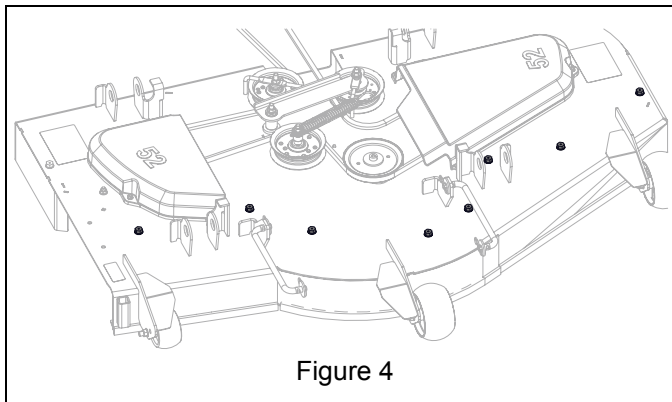

Figure 4
6. Remove eight 3/8" x 1/2" tapping screws from top of deck. Retain screws for operation without mulch kit. See Figure 4.